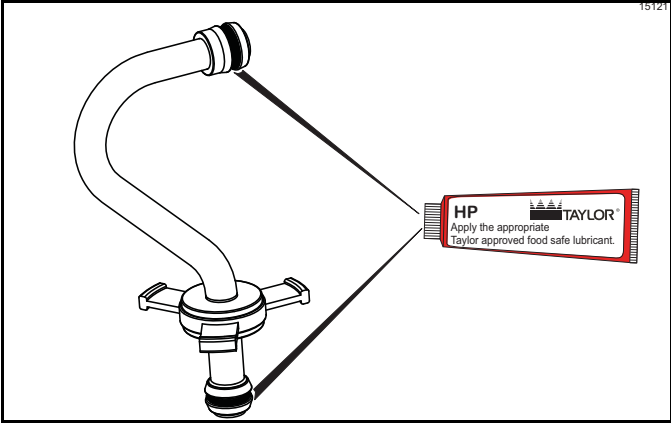

Figure 6-32
11. Install one red O-ring on each end of the mix feed tube and thoroughly lubricate. (See Figure 6-32.)